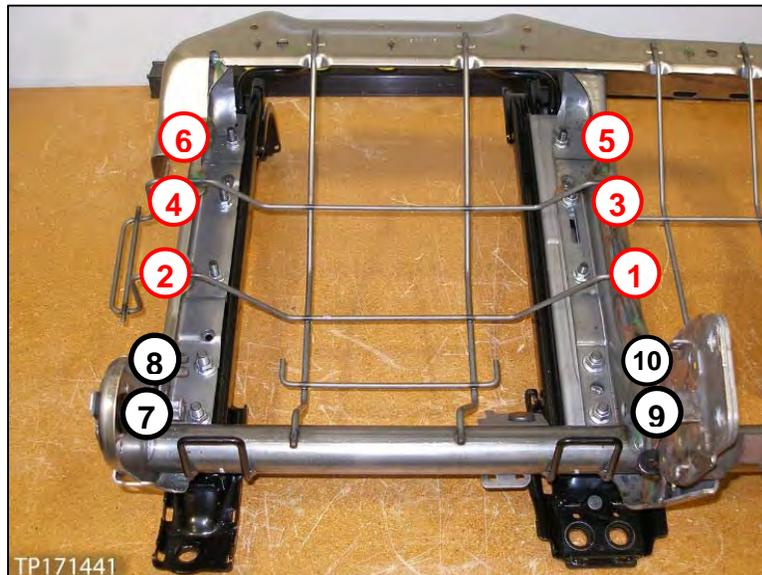

Figure 50
- See order of torque sequence in Figure 50 (12 mm numbered in **RED**, 14 mm in **BLACK**).